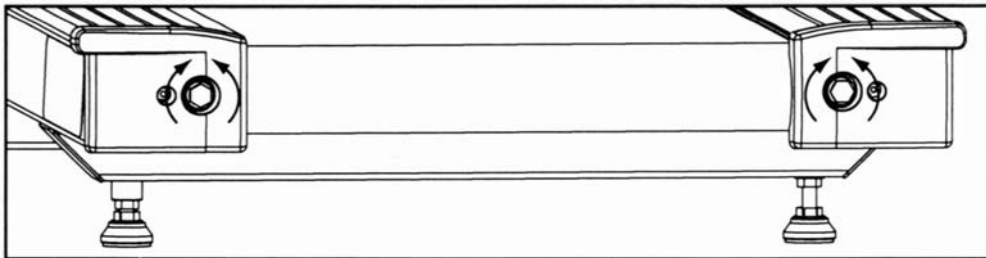

Figure 1
**To Re-tension the Belt:** While holding down any key on the console, turn the treadmill on; this brings you into *Test Mode*. Press **Speed ▲** to increase the belt speed to 5 mph (8 kph). Rotate both of the rear roller tension bolts 1/4 of a turn clockwise. If the belt tracks off center, to either side, the running deck will become visible. If this occurs, it will be necessary to adjust the running belt back to the center. See Figure 1.